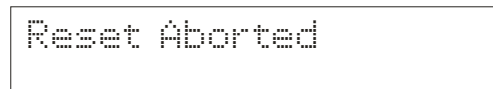

Figure 187
- If you select **No**, the screen flashes *Reset Aborted*. See **Figure 187**. The meter then returns to the measurement mode.